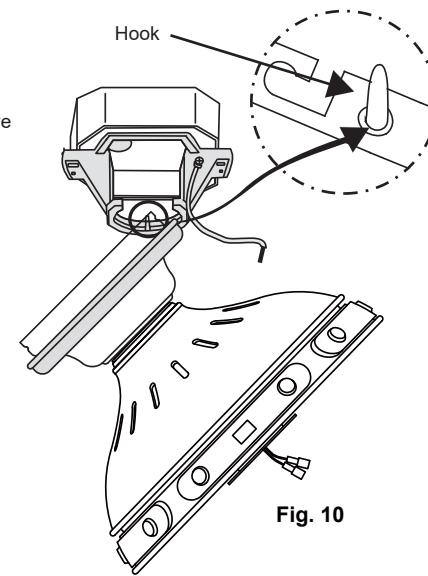

Fig. 10
**Step 2.** Push the decorative mounting screw cover down and off the canopy letting it rest on top of the motor housing (**Fig. 10**) and hang the fan on the ceiling mounting bracket by inserting the hook on the inside edge of the ceiling mounting bracket through one of the screw holes in the ceiling canopy (**Fig. 10**). This will allow you to have both hands free to make the wiring connections.